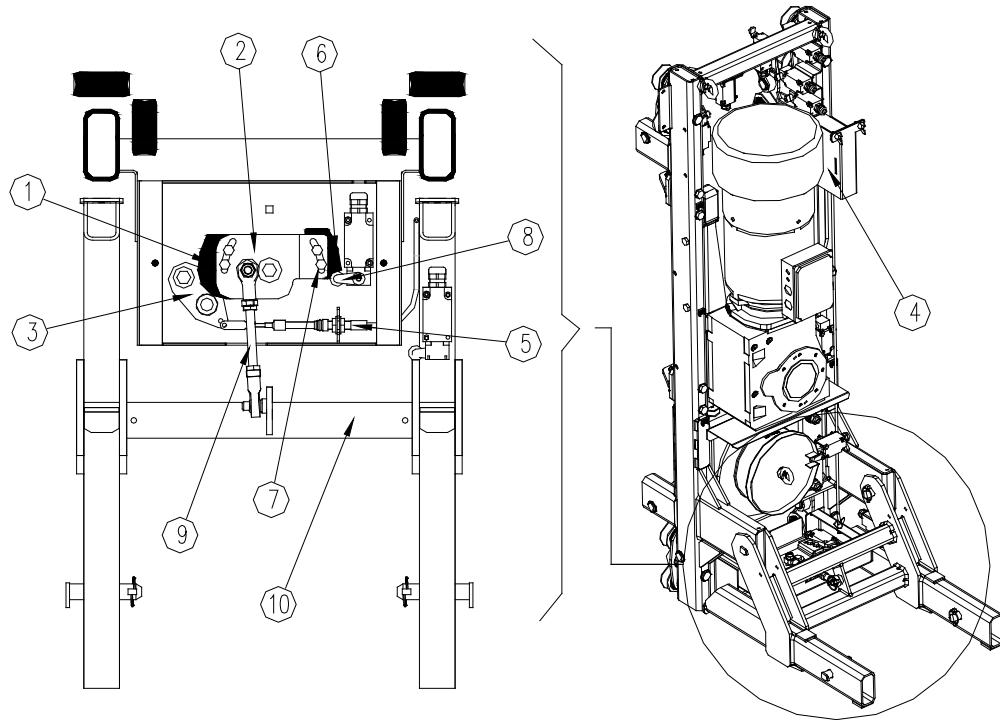

Fig.H.08 Levelling
23. Make sure that both of the levelling bar (9-fig.H.08) are connected to the adapters (10-fig.H.08). Place a spirit level in the middle of the platform. Using manual levelling buttons located on the main panel, bring the platform to a horizontal position.
24. Adjust the position of the mechanical levelling cam (1-fig.H.08) using the screws (2-fig.H.08), so that the gap between it and the release lever (3-fig.H.08) is about 2 mm when the brake release handle (4-fig.H.08) is completely pulled and the engine brake released.
28. Release with much attention and care the brake of the drive unit by the handle until the connection cable to the cam of the levelling system (5-fig.H.08) do not result in the opposite movement (the hand is forced to release the handle) and the brake is closed again.
32. Approach the electrical levelling cam (6-fig.H.08) using the screws (7-fig.H.08) to the head of limit switch (8-fig.H.08) so that the distance A has, depending of machine configuration and type of functionality, the values of following table.